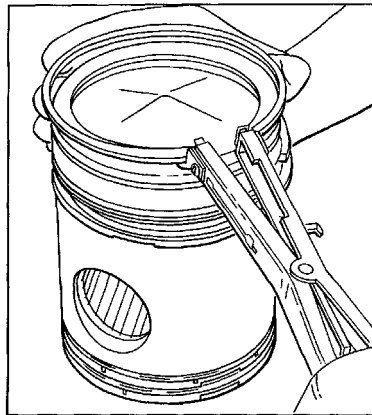

Figure 2. Removing or Installing Piston Ring using Tool J 8128
1. Secure the connecting rod in a vise equipped with soft jaws and remove the piston rings with tool J 8128 as shown in Fig. 2.